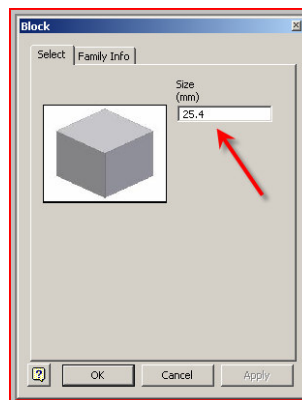

Figure 03 – User Input Dialogue Box
Step 05: Now you will be prompted with user input dialogue box to enter the size of the block. (Length X Width X Height) as a single value as shown in figure 03, also enter the value as 50mm